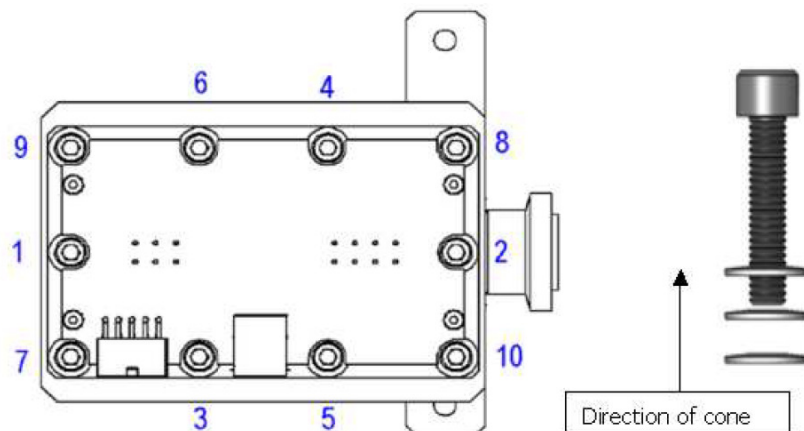

Figure 3-13. Tightening spectrometer header screws
27. Follow the torquing pattern in Figure 3-13). Torque screws to 40 in-lbs (4.5 N-m).
29. Wait a minimum of five minutes, then torque the screws again in the same pattern (Figure 3-13) to a value of 90 in-lbs (10.2 N-m). This wait period allows the washers to decompress.